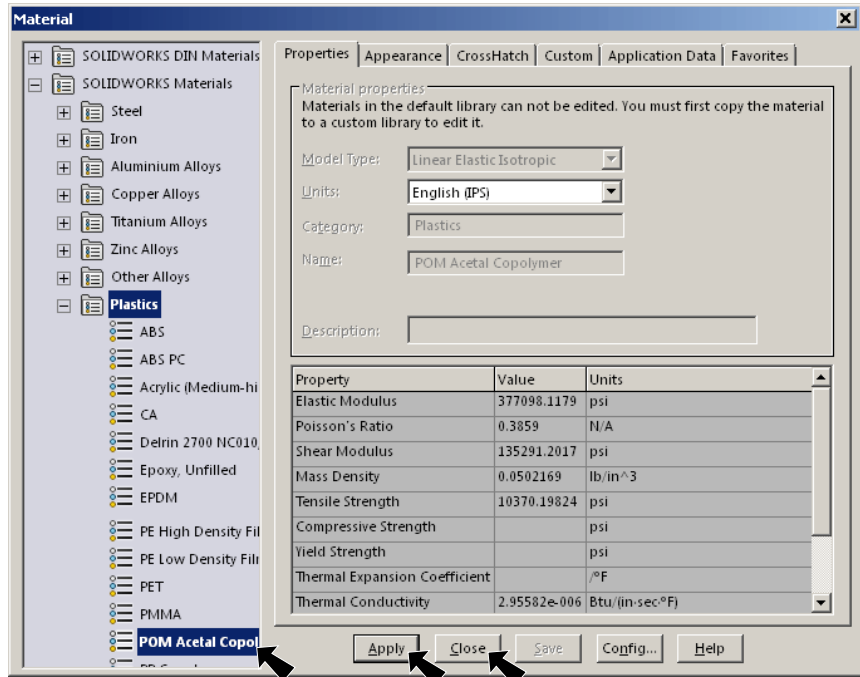

Fig. 24
- Step 2. Expand **Plastics** in the material tree and select **POM Acetal Copolymer**, Fig. 24. Click **Apply** and **Close**.